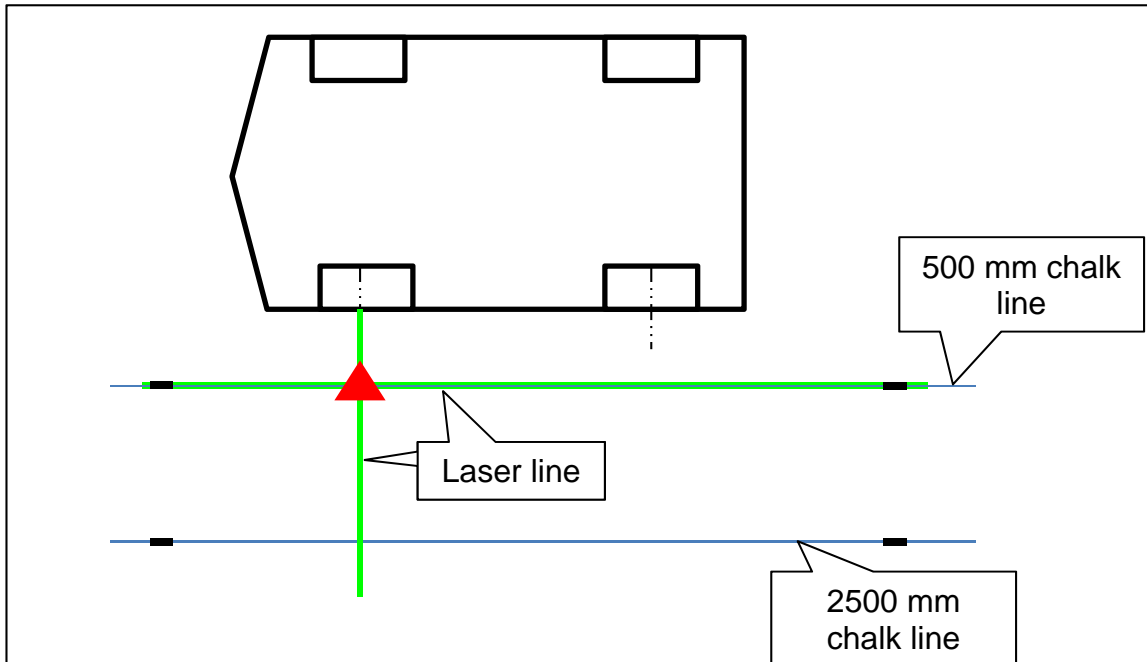
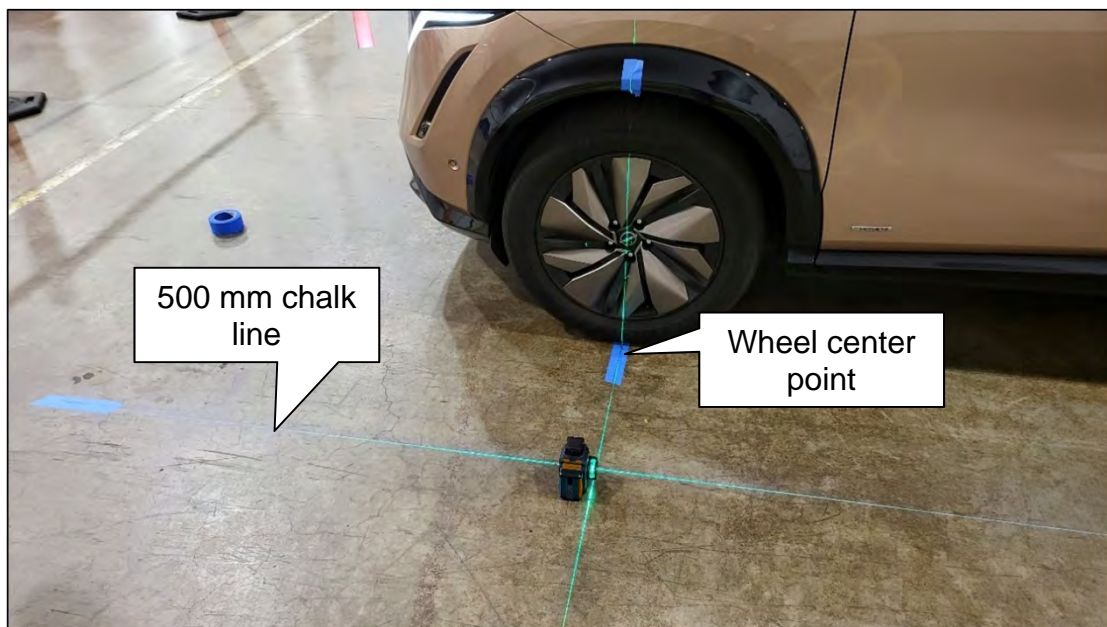

Figure 33
Figure 34
26. Place the laser level with both vertical lines activated, and align one laser line with the 500 mm chalk line and align the other laser line to the center point on the front driver (LH) side wheel, as shown in Figure 33 and Figure 34.